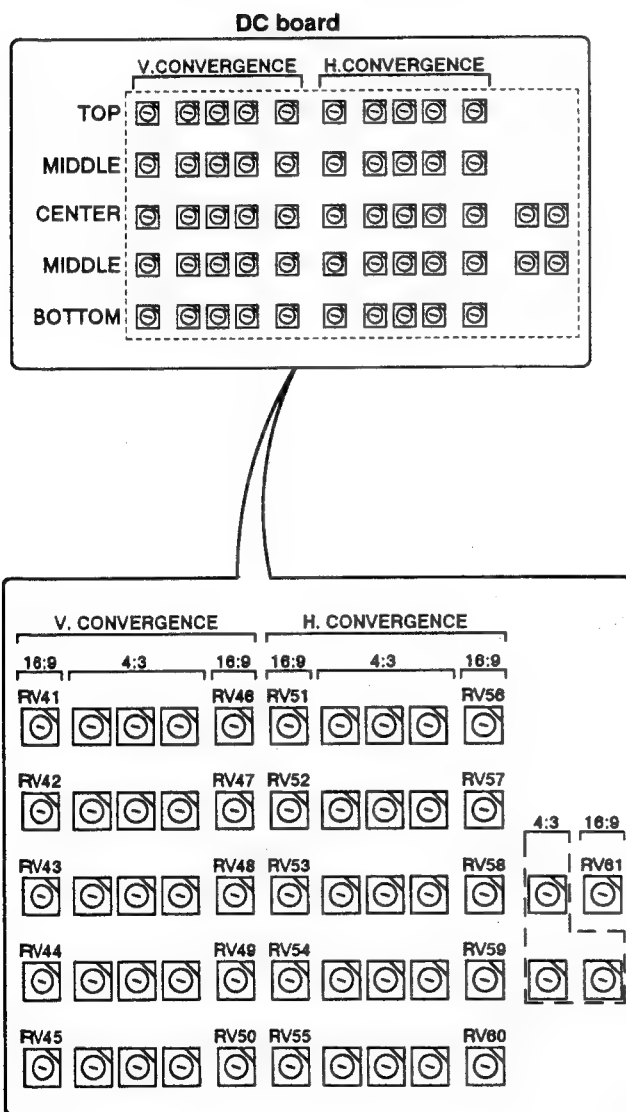

Fig. 1-21
2. Adjust CONVERGENCE controls (RV41 ~ RV60) on the DC board as shown in Fig. 1-21.